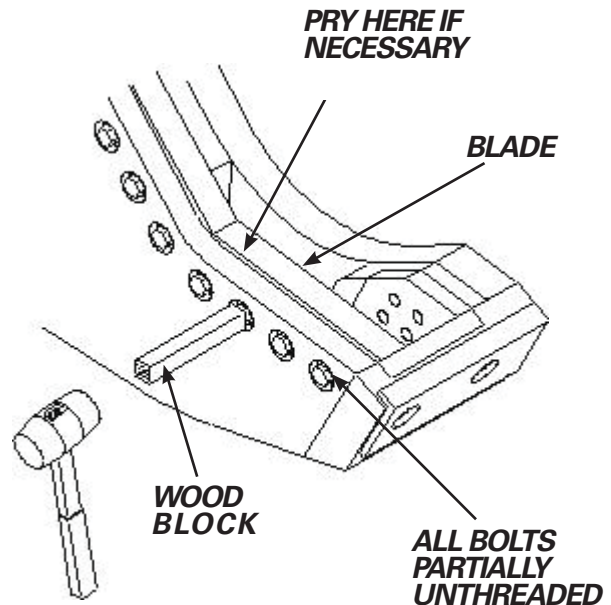

FIGURE 5-6
4. If the blade is still jammed in its seat, place a wood block or similar object against the head of one of the blade bolts and strike with a mallet (see **Figure 5-6**). The bolt being struck should be within 1/2" (13 mm) of being fully threaded into the blade to prevent thread damage.